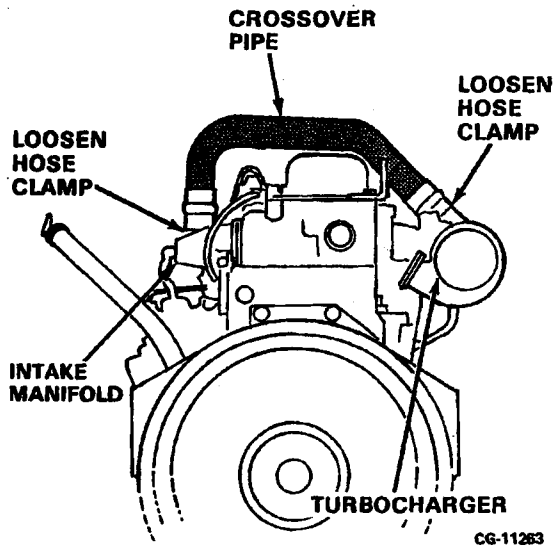

Figure 2.4. Crossover Pipe Removal
1. **DT-360 Only:** Remove the turbocharger to intake manifold crossover pipe (as an assembly) and cap the turbo outlet and manifold inlet. (Refer to Figure 2.4.)